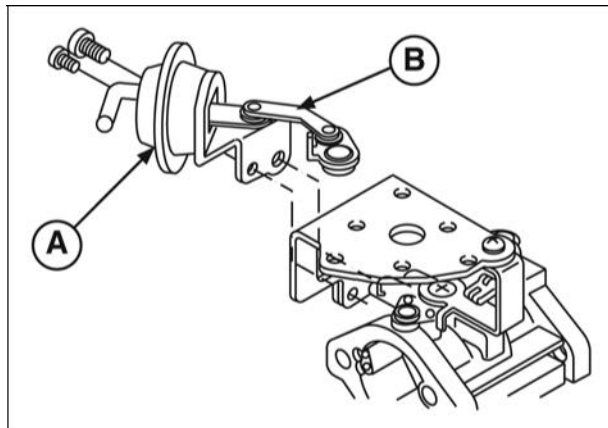

Figure 43
4. Assemble vacuum choke break (A, Figure 43) to bracket. Note correct position of pivot arm (B).